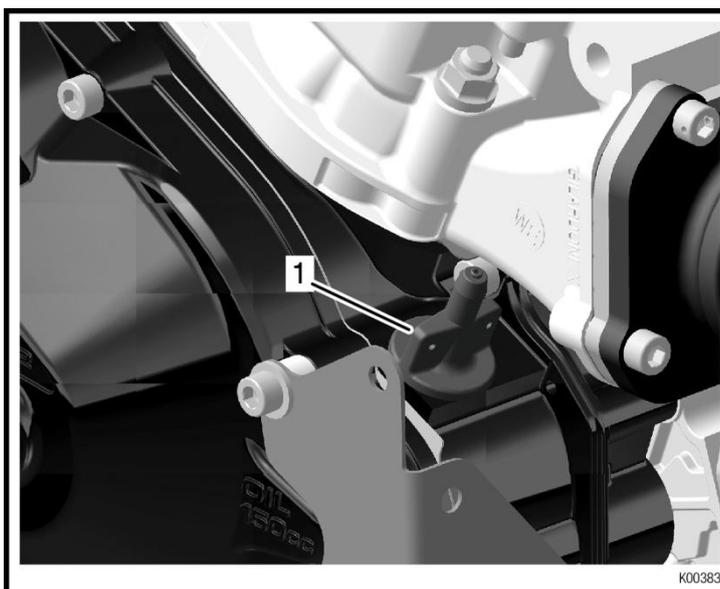

Fig. 33
- ➔ Remove the air vent screw (pos. 1, *Fig. 33*) and slowly fill in oil of specification SAE 15W-40 until oil level is in the middle of the inspection glass.
- ➔ Hand-tighten air vent screw (pos. 1).